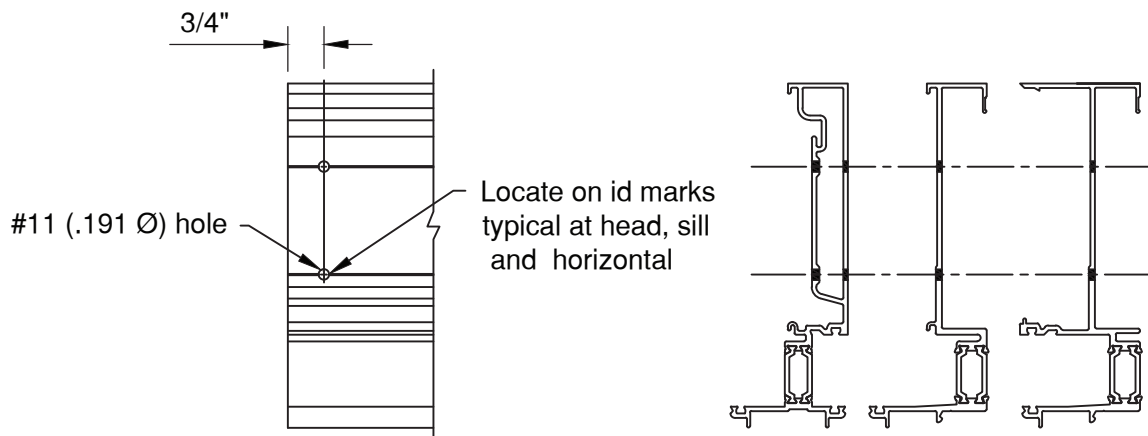

**Figure 3**
- 1.4 Install and seal end caps to top and bottom of all jamb and intermediate vertical mullions with (4) FS-320 #10 x 1/2" drive screws. **SEE FIGURE 2**. Modify end cap at jambs as shown in **FIGURE 3**